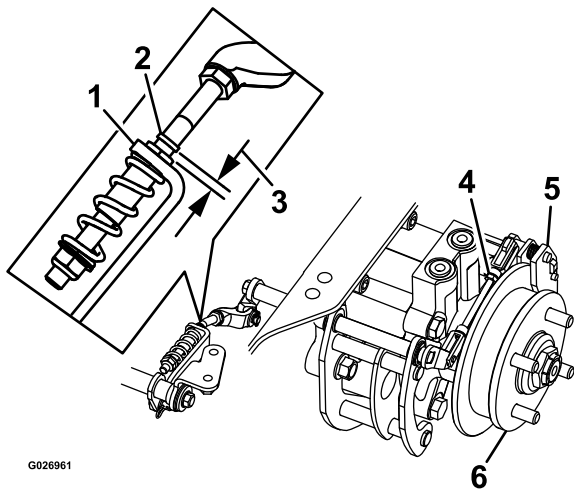

Figure 74
8. Check to see if there is a visible gap between the L-bracket and the linkage stop (Figure 74).